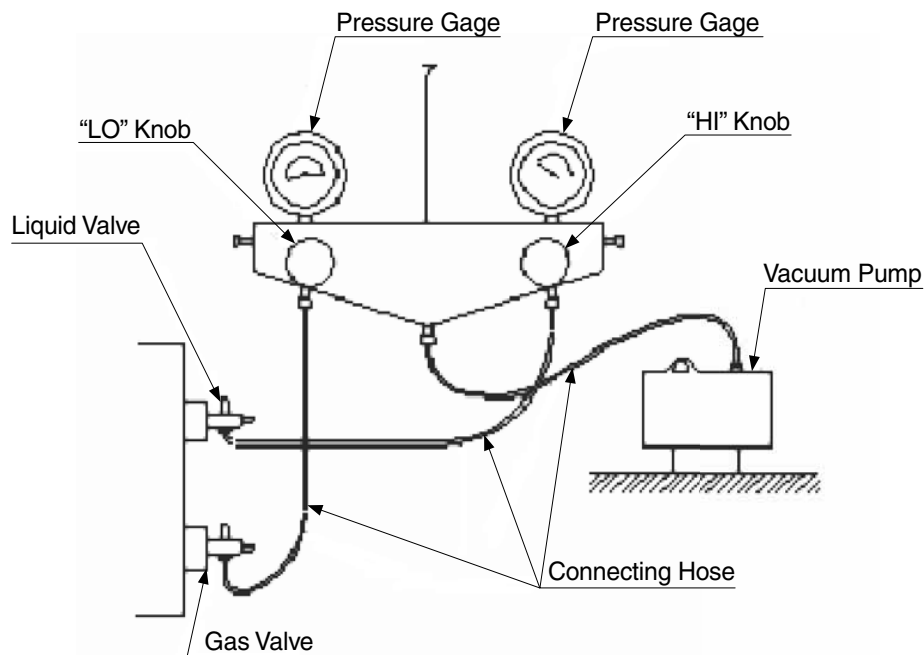

Fig.8.13
10. If possible, use a vacuum pump to remove air out of the valve. Refer to Fig. 8.13.